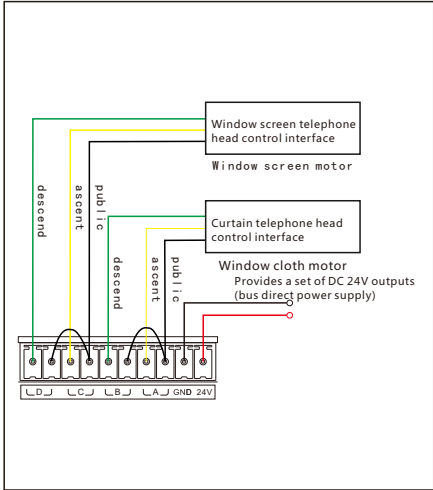

Figure 7. Curtain interface wiring
Product Wiring: See Figure 7 and 8
2. Curtain interface: A, B, C, D corresponding to 1-4 channels, 24V, GND output voltage, (see Figure 7)